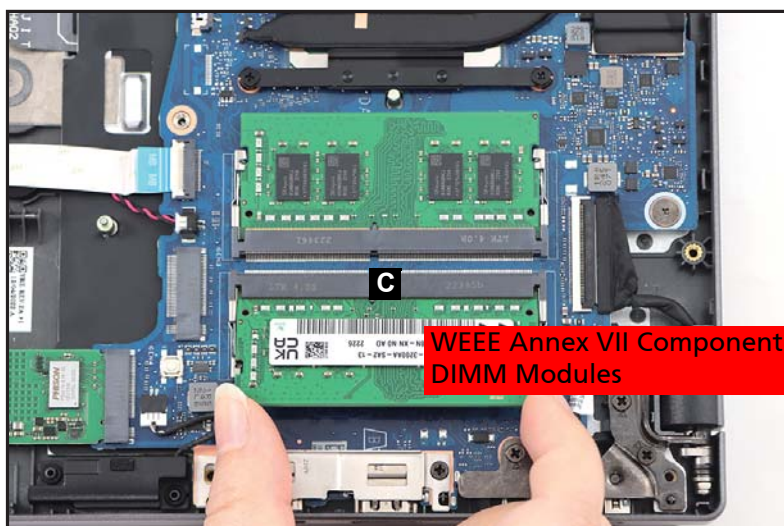

Figure 1-17. DIMM Module Removal
2. Remove the DIMM module from the mainboard connector (C) (Figure 1-17).